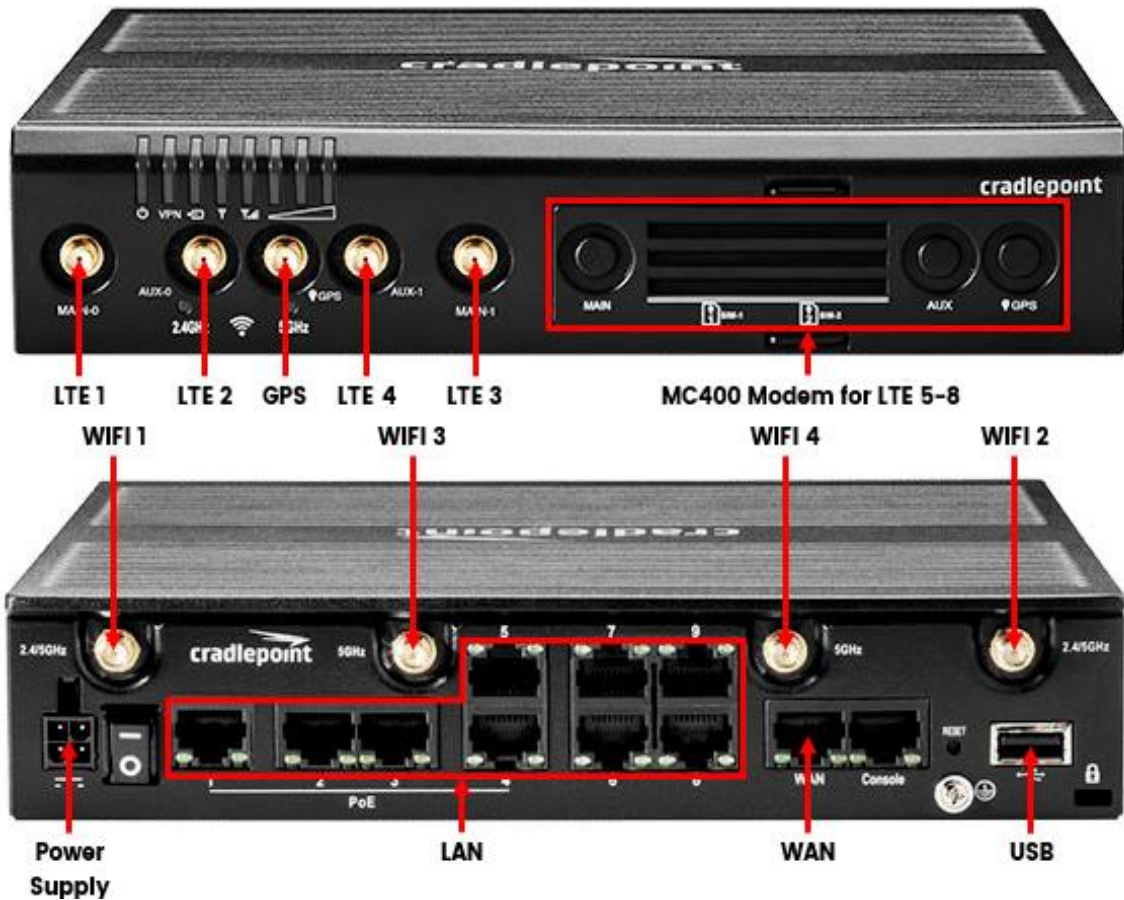

Figure 8: Cradlepoint AER2200 Connections
- A. Connect the router power supply to the power supply port on the router, shown in Figures 8, 9 & 10.
- A. Connect the provided ethernet cords to the LAN and WAN ports on the router, shown in Figures 8, 9 & 10.
- C. **For transferring data to external devices**, connect the other end of the USB-A cord into the USB-A port on the router, shown in Figures 8, 9 & 10.